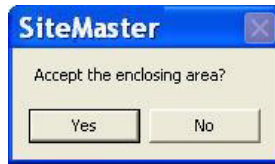

Figure 13-88. Confirmation Message
- Click in an enclosed area. A confirmation message appears (Figure 13-88).